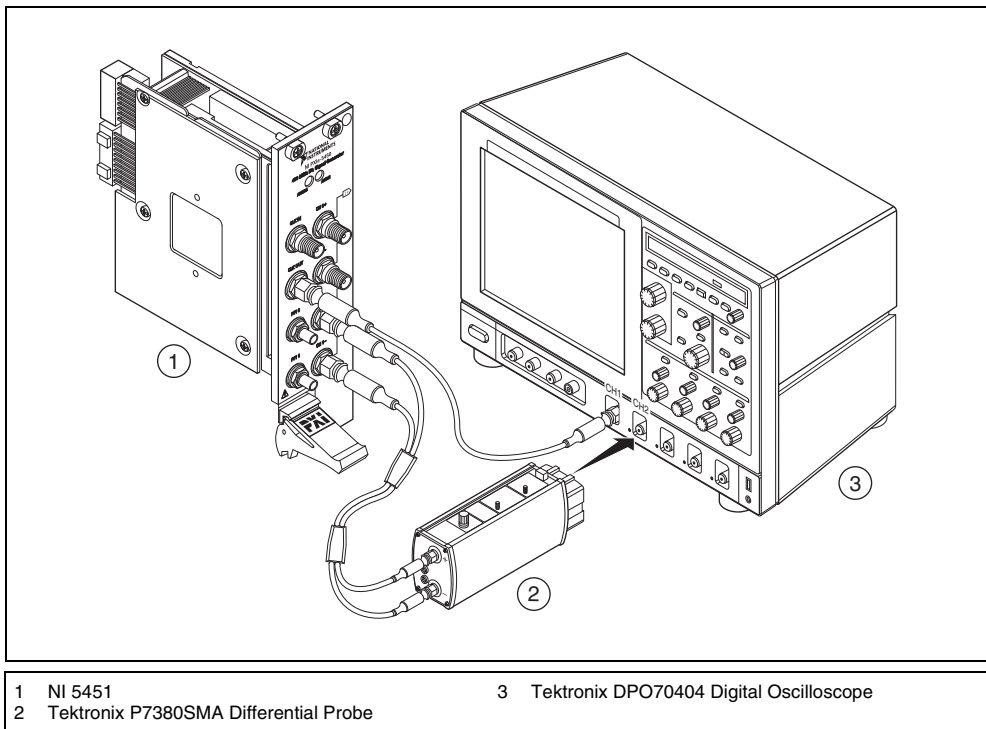

Figure 8. NI 5451 Connection to an Oscilloscope Using a Differential Acquisition Probe (CH 1)
4. Connect the devices as shown in Figure 8.